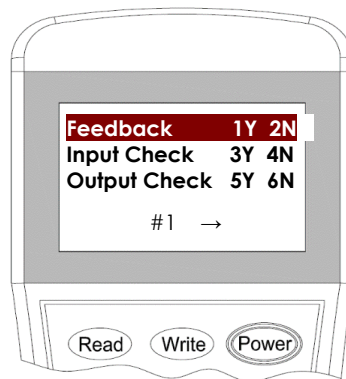

Figure 11: Page 1 for first address
4. The TX7220 takes two addresses. For the 1st address, input the **“1”** for Self-feedback mode or **“2”** for External-feedback mode then press **“Write”** to change the setting (Figure 11).